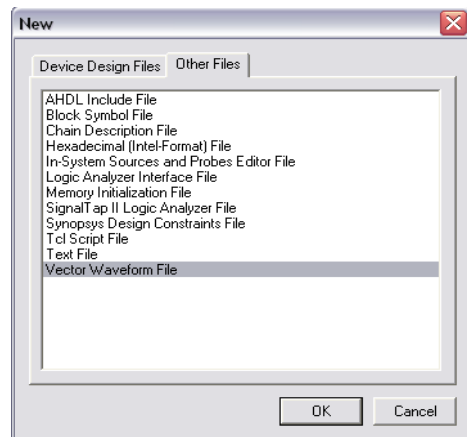

Figure 26. Need to prepare a new file.
1. Open the Waveform Editor window by selecting **File > New>Other Files** tab, which gives the window shown in Figure 26.Choose **Vector Waveform File** and click **OK**.